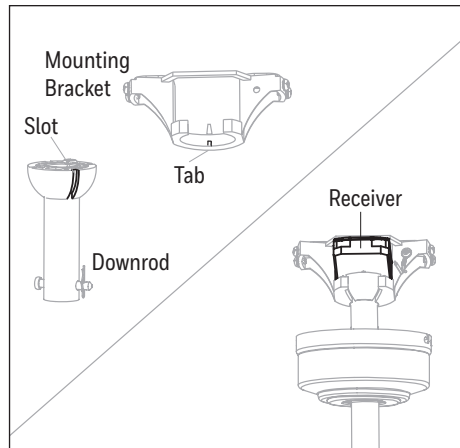

Figure 3.5
5. Install the ball end of the downrod into the opening of the mounting bracket (Figure 3.5). **WARNING:** Failure to align the slot in the ball with the tap on the mounting bracket may cause the fan to fall, which could result in injury or death. Then, insert the receiver inside the mounting bracket with the flat side facing the ceiling.